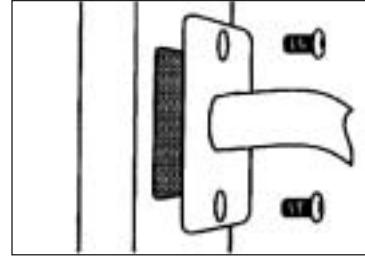

Fig. 3A
3. Remove the cover plate for the door wiring, and disconnect the electrical cord (figure 3A).